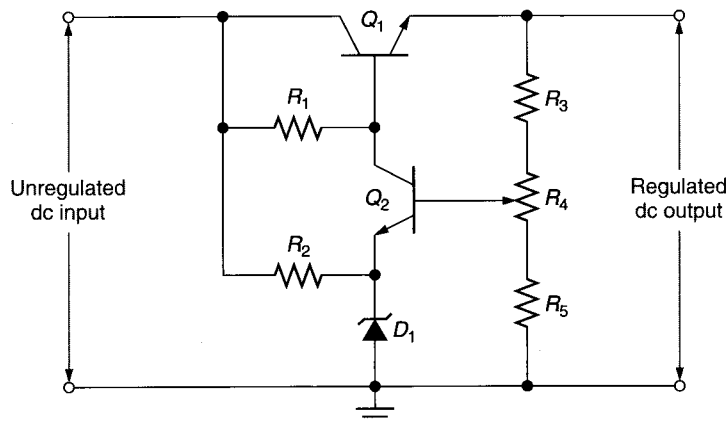

FIGURE 21.7 Schematic diagram for a basic series feedback regulator.
The schematic diagram for a series feedback regulator is shown in Figure 21.7. The *sample and adjust circuit* is the voltage divider that consists of  $R_3$ ,  $R_4$ , and  $R_5$ . The reference voltage is set by the zener diode.  $Q_2$  detects and amplifies the difference between the reference and sample voltages and adjusts the conduction of the pass-transistor accordingly.
The operation of the circuit shown in Figure 21.7 is best illustrated by describing its response to a change in load resistance. If load resistance *increases*, load voltage starts to increase. The voltage divider is in parallel with the load, so the voltage at the base of  $Q_2$  also increases. The increase in  $V_{B(Q2)}$  increases the conduction through the transistor and its collector resistor ( $R_1$ ). The increased conduction causes  $V_{C(Q2)}$  to decrease, which reduces the value of  $V_{B(Q1)}$ . The reduction in  $V_{B(Q1)}$  reduces the conduction through the pass-transistor, causing load current to decrease. The decrease in load current offsets the initial increase in load resistance.
8. How would the circuit shown in Figure 21.7 respond to slight variations in line voltage?